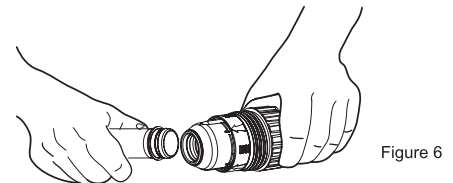

Figure 6
4. Pull inner extension tube firmly away from cup assembly to separate (see Figure 6), and set aside.